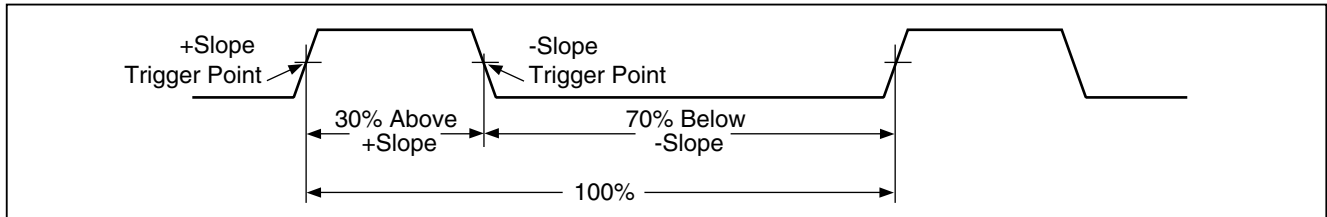

Figure 9. Components of Duty Cycle Measurements
To measure frequency, connect the Meter to the signal source; then press . Pressing switches the trigger slope between + and -, as indicated by the symbol at the left side of the display (refer to Figure 9 under "Duty Cycle"). Pressing stops and starts the counter.
Duty cycle (or duty factor) is the percentage of time a signal is above or below a trigger level during one cycle (Figure 9). The duty cycle mode is optimized for measuring the on or off time of logic and switching signals. Systems such as electronic fuel injection systems and switching power supplies are controlled by pulses of varying width, which can be checked by measuring duty cycle.
2. Push a second time to measure the signal's duty cycle. Push to select a measurement of the signal's positive or negative pulse, refer to Figure 9.